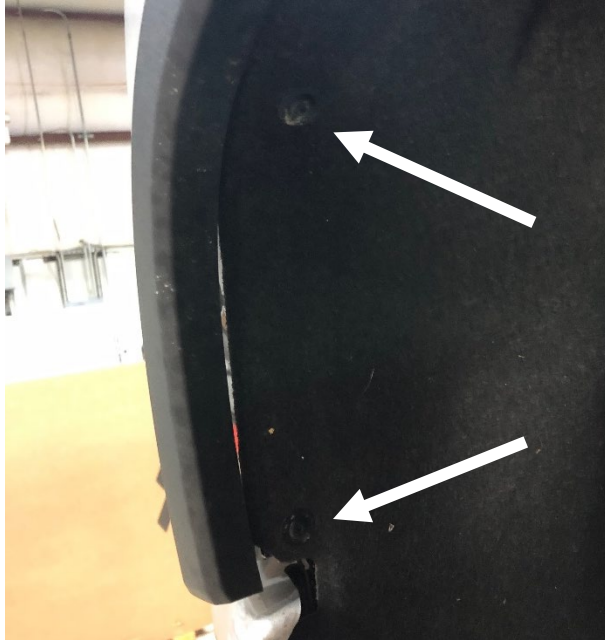

Figure 1.
1. Use a T10 star head socket wrench to remove the two (2) bolts from both the passenger and driver side wheel wells. (Figure 1)